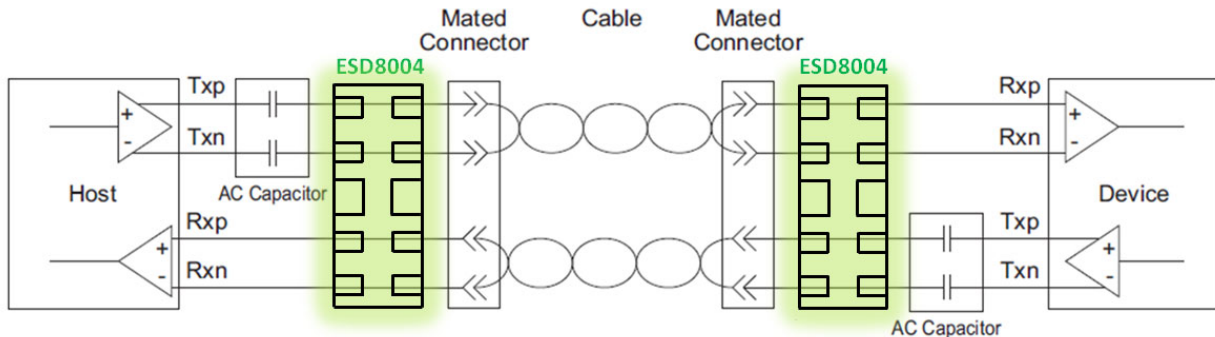

Figure 14. USB 3.0/3.1 Connection Diagram
- ◆ In USB 3.0 applications, the ESD protection device should be placed between the AC coupling capacitors and the I/O connector on the TX differential lanes as shown in Figure 14. In this configuration, no DC current can flow through the ESD protection device preventing any potential